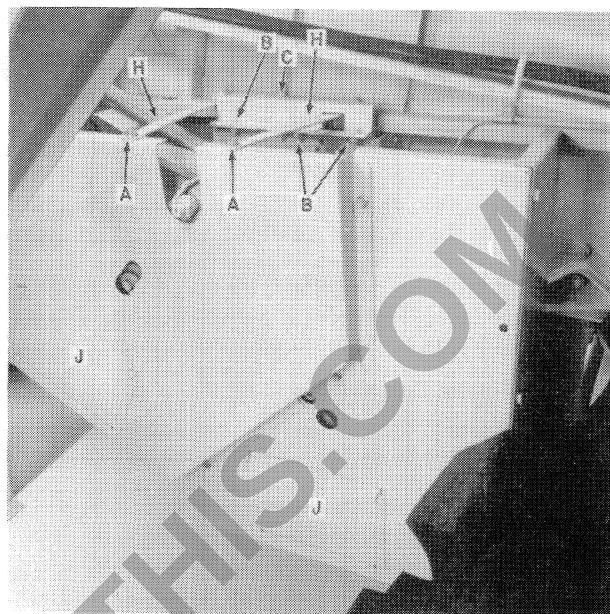

FIGURE 13-23
8. Install braces, H, Figure 13-23, using the existing hardware at the combine frame and two 5/16" x 3/4" flange bolts and nuts at A. Install shield, C, using three 5/16" x 3/4" flange nuts and bolts at B.
9. Install the access doors, J, Figure 13-23, using wing screws.